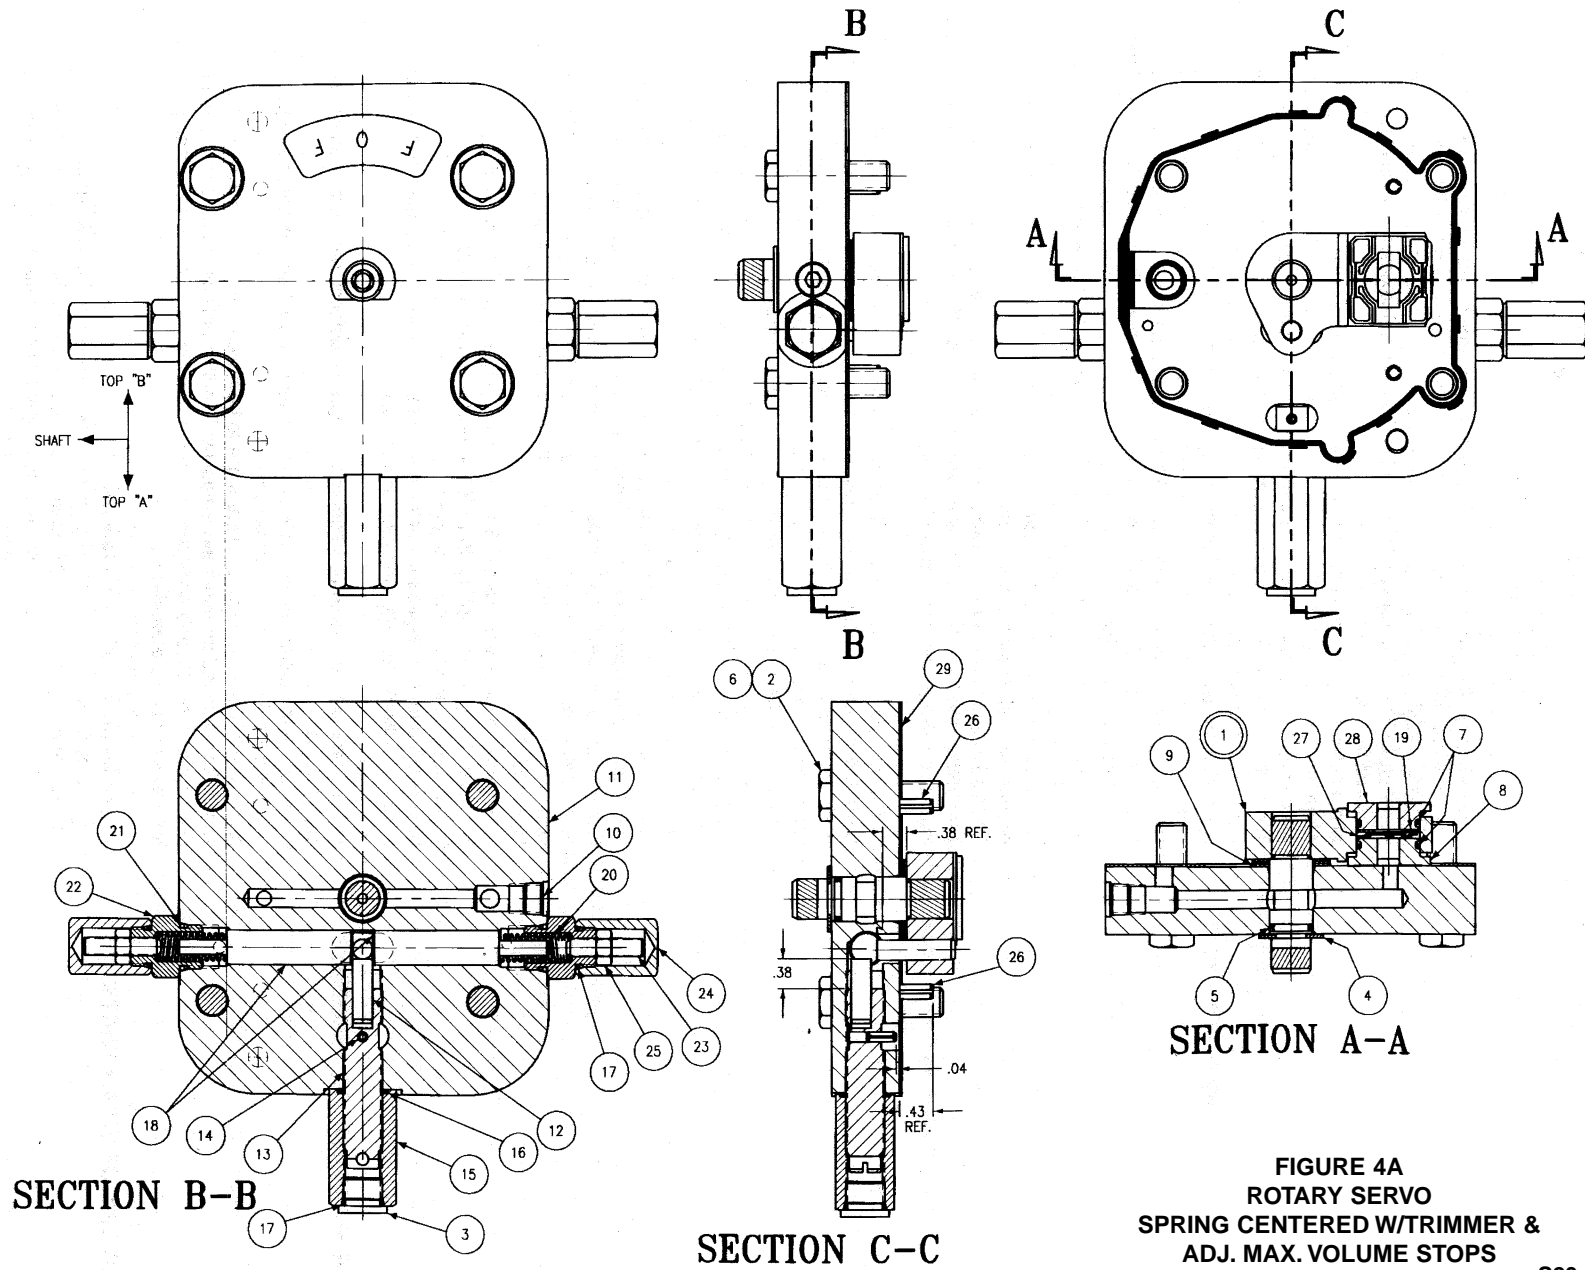

FIGURE 4A
See Figure 4A
*For Figure 4A - Rotary servo